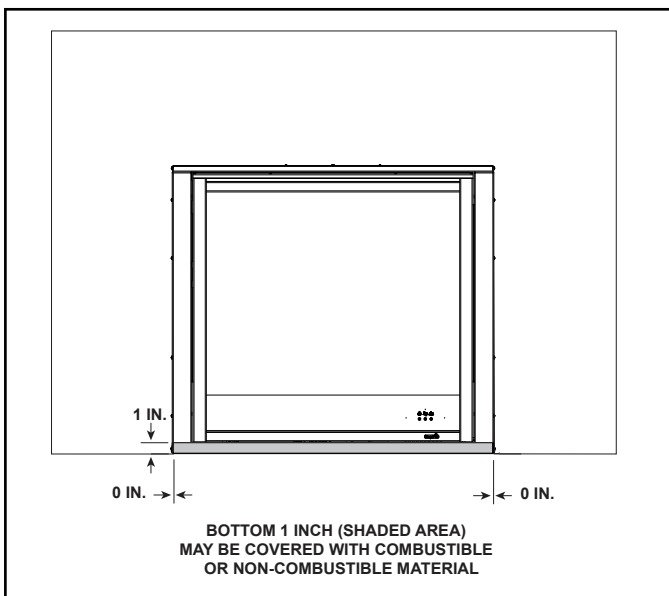

Figure 4.3 Bottom Edge for Flooring
**Note:** The appliance can have a maximum of 1" of flooring brought up to front edge if mounted directly to sub flooring. See Figure 4.3.
Flooring materials, such as carpeting and padding, and other floor finishing materials must not extend higher than one inch from the base of the appliance when the appliance is mounted at floor level. See Figure 4.3.